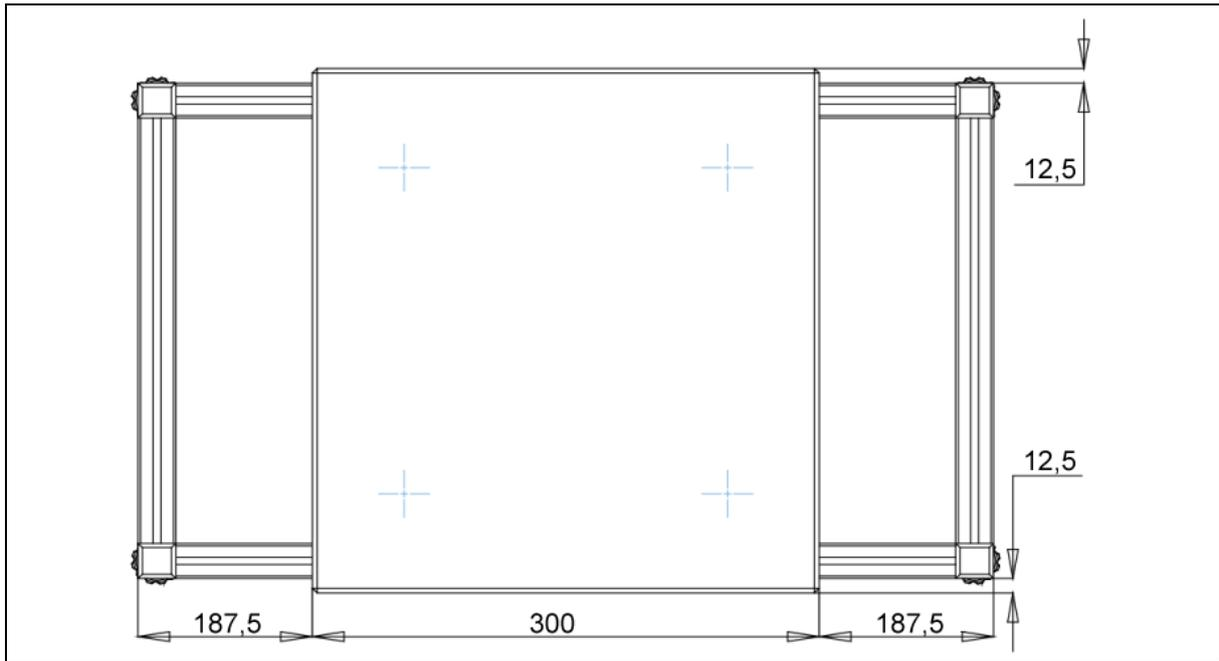

Figure 5
7. Put upon the granite block and center it as exactly as possible. Fig. 5 and 6 show the completely assembled inner table.